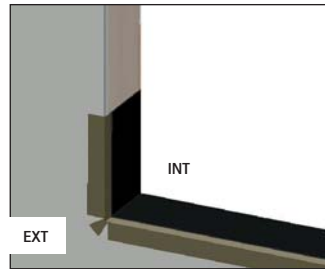

FIG. 7
- E) Flashing tape must cover the entire sill. If needed, apply an additional flashing piece over the first one (start from the exterior and work towards the interior). Maintain a minimum 1" overlap. (Fig. 7)